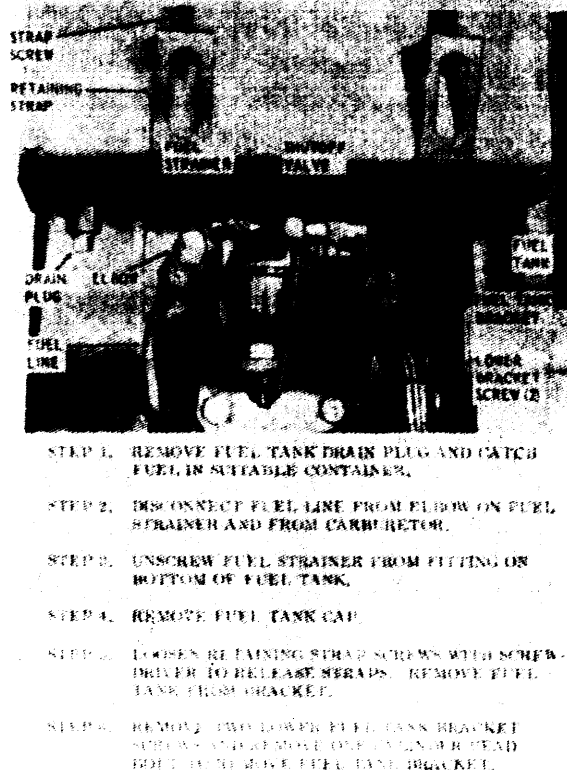

Figure 16. Fuel tank, bracket, fuel strainer, line, and fittings, removal and installation.
a. Removal. Refer to figure 16 and remove the fuel tank, bracket, fuel strainer, fuel line and fittings.
- (1) Clean all parts with an approved cleaning solvent; dry thoroughly.
- (2) Inspect the fuel line for restrictions, dents, clogging, or other damage.
- (3) Inspect the fuel tank for leaks severe dents, worn or damaged park
- (4) Inspect the fuel tank cap for dents, distortion or clogged breather hole. Open breather hole if clogged.
- (5) Inspect the fuel strainer parts for cracks, distortion, and damaged threads. Make sure the shutoff valve in the fuel strainer operates smoothly and easily.
- (6) Inspect all other parts for cracks, worn or damaged threads, or other damage. Replace all damaged parts.
c. Installation Refer to figure 16 and install the fuel tank, bracket, fuel strainer, fuel line and fittings.